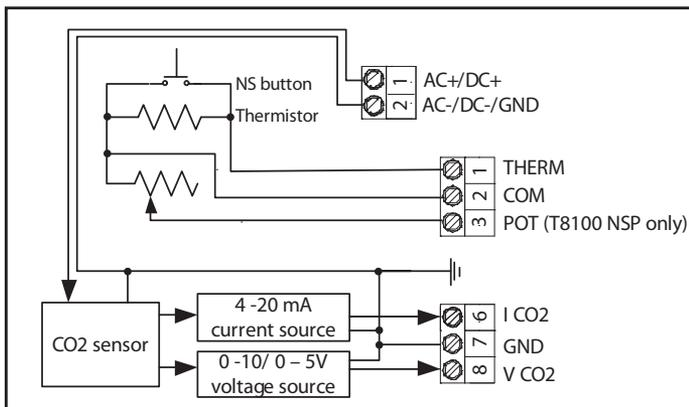

Figure 1: T8100-NS/NSP Functional Block Diagram
The functional block diagram of T8100-NSP is presented in Figure 1.
*The electrical circuits of thermistor, Night Setback Override Button and potentiometer have common signal between each other as shown in Figure 1.*